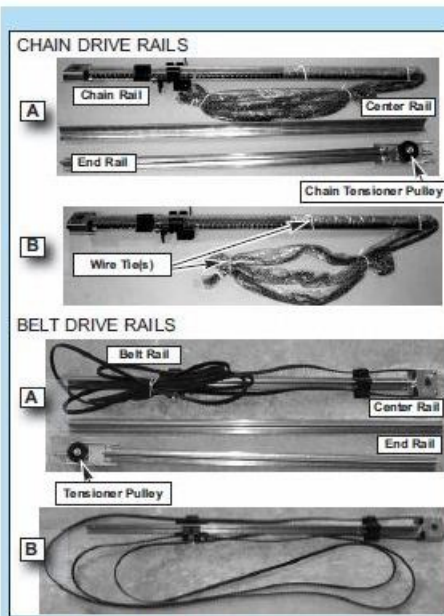

FIG. 1-2 Split Rail sections.
3. Remove the two rail sections that are not connected to the chain and place them on floor (Fig. 1-2, A).
4. Carefully remove the third rail section with chain and plastic sleeve. Place rail section on floor and extend chain straight out (Fig. 1-2, B). Chain and rail should extend approximately 7 feet.
3. Remove the two rail sections that are not connected to the belt and place them on floor (Fig. 1-2, A).
4. Carefully remove the third rail section with belt. Place rail section on floor, remove ties on belt and extend belt straight out (Fig. 1-2, B). Belt and rail should extend approximately 7 feet.